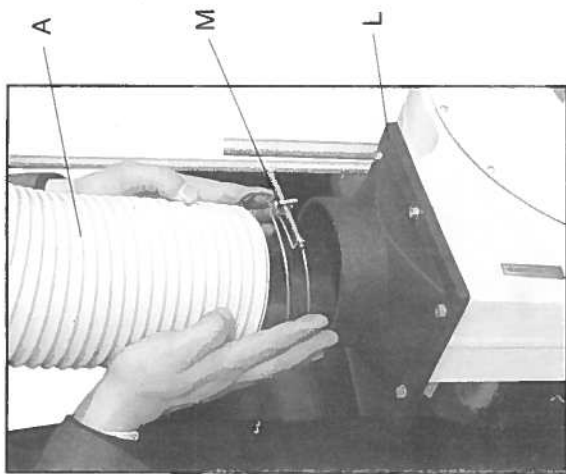
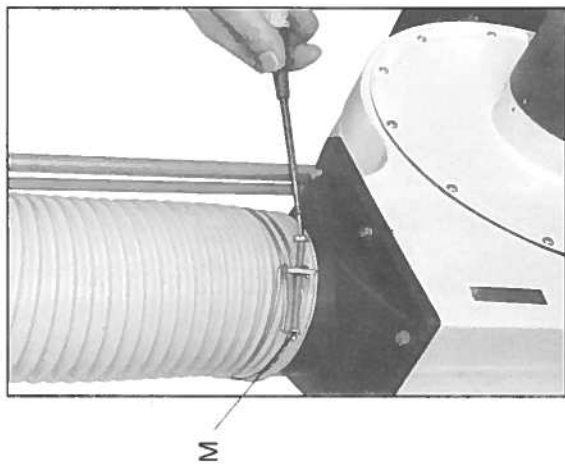

Fig. 8
Fig. 9
attach one end of the hose (A) to the outlet (L) and the other end to the side hole of the collector rim and secure with the two hose clamps (M) as shown in Fig. 8, Fig. 9, and Fig. 10.